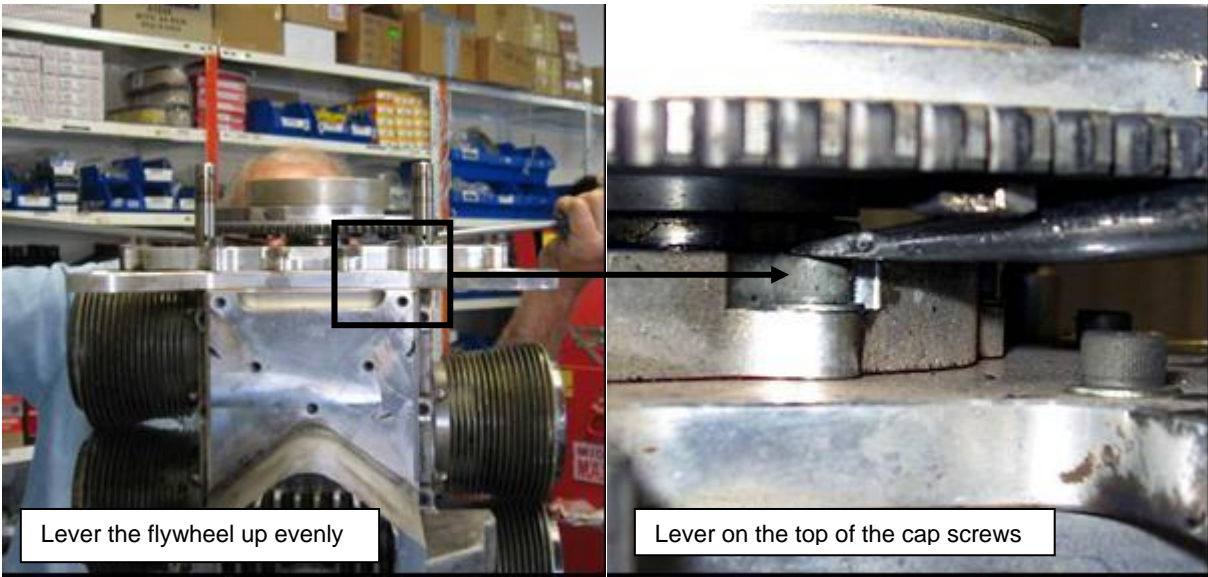

Figure 49 – Removing Flywheel
- Once all 6 cap screws have been removed the flywheel can be levered off of the crankshaft: note the leverage points in Figure 49, where 2 large screwdrivers are placed under the flywheel on the tops of opposing timing case cap screws and then moved evenly up to provide leverage to remove the flywheel from the crankshaft.